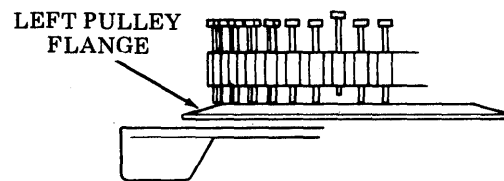

Fig. 37—Type Carrier Alignment
- (h) Align all pallets against left pulley flange (Fig. 37).
Warning: Damage to the type carrier or printer will result if any protruding type pallet is left unchecked (Fig. 37).
- (d) Rotate type carrier one revolution by turning impeller gear by hand clockwise. At the same time align any protruding type pallets against the left pulley flange (Fig. 37).